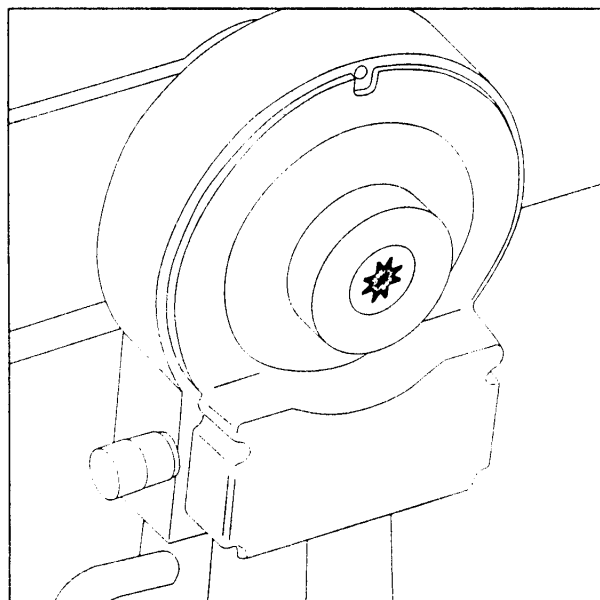

Fig. 7: LX200 Dec. assembly. (1) Mounting screws; (2) Worm gear cover; (3) Dec. slow-motion control; (4) Dec. lock knob.
1. Completely unthread and remove the Dec. lock knob (4, Fig. 7).
2. Remove the three mounting screws (1, Fig. 7) that hold the plastic cosmetic cover. The Dec. motor assembly is now visible.
4. Now completely remove the Dec. lock knob (4, Fig. 7) and the worm block mounting screws.
12. Thread the Dec. lock knob (4, Fig. 7) into place and check the gear action by turning the Dec. slow motion control knob (3, Fig. 7). If necessary, use some lithium grease or standard automotive grease on the worm gear to improve the smoothness. Once satisfied, remove the Dec. lock knob, replace the cosmetic cover with its three screws, and re-attach the Dec. lock.